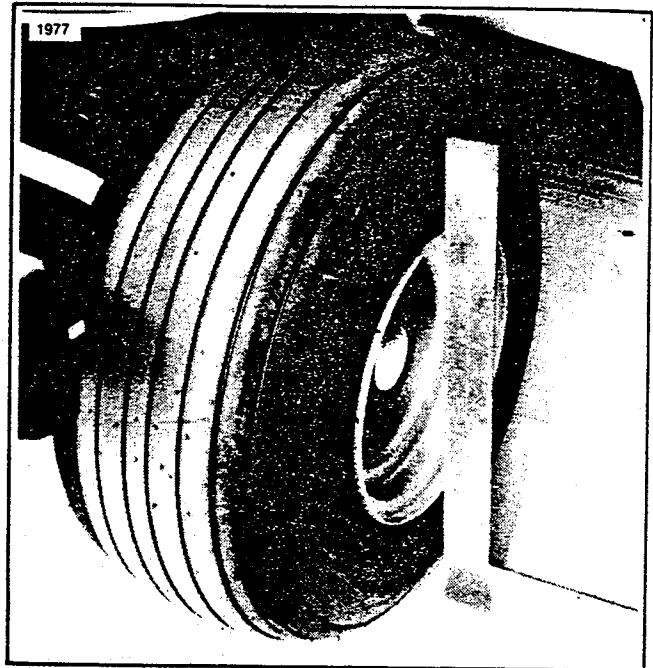

Figure 2-18. Checking Camber
4. Check camber with carpenter's square against one front wheel (Figure 2-18).